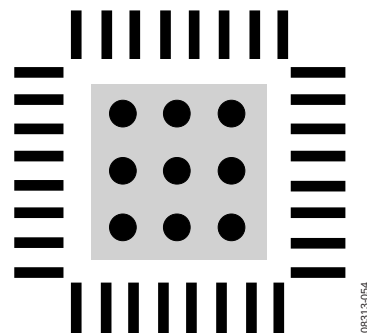

Figure 56. Exposed Pad Layout Example, Top View
- Vias should be placed to connect all layers of copper, allowing for efficient heat and energy conductivity. For an example, see Figure 56, which has nine vias arranged in a 3 inch $\times$ 3 inch grid in the pad area.